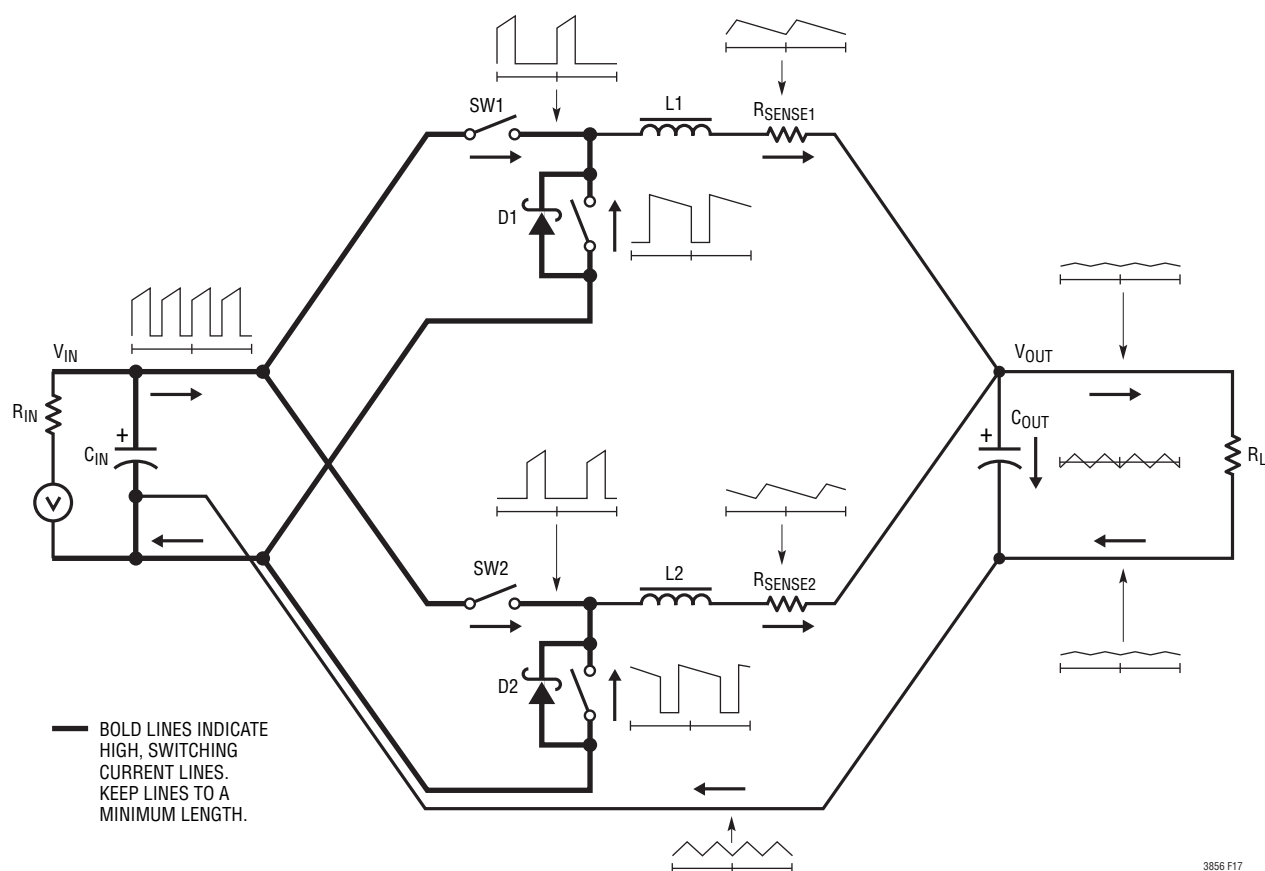

Figure 17. Instantaneous Current Path Flow in a Multiple Phase Switching Regulation
When laying out the printed circuit board, the following checklist should be used to ensure proper operation of the IC. These items are also illustrated graphically in the layout diagram of Figure 17. Check the following in the PC layout:
7. The 47pF to 330pF ceramic capacitor between the I_{TH} pin and signal ground should be placed as close as possible to the IC. Figure 17 illustrates all branch currents in a 2-phase switching regulator. It becomes very clear after studying the current waveforms why it is critical to keep the high switching current paths to a small physical size. High electric and magnetic fields will radiate from these loops just as radio stations transmit signals. The output capacitor ground should return to the negative terminal of the input capacitor and not share a common ground path with any switched current paths. The left half of the circuit gives rise to the *noise* generated by a switching regulator. The ground terminations of the synchronous MOSFETs and Schottky diodes should return to the bottom plate(s) of the input capacitor(s) with a short isolated PC trace since very high switched currents are present. External OPTI-LOOP[®] compensation allows overcompensation for PC layouts which are not optimized, but this is not the recommended design procedure.